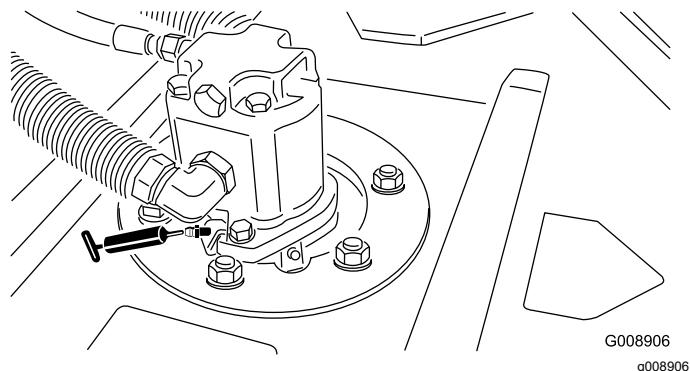

Figure 36
- Cutting unit spindle-shaft bearings (2 per cutting unit)—Figure 36